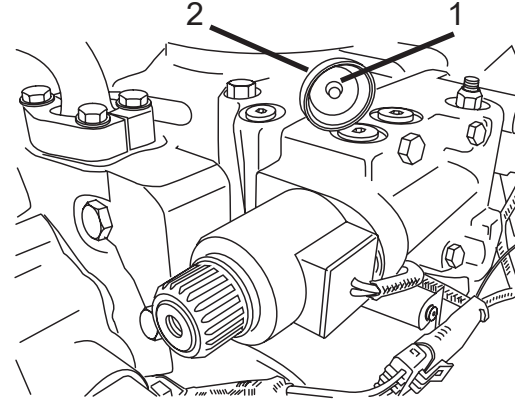

Figure 6
16. Remove the pins (Figure 6, Item 1) from the override caps (Figure 6, Item 2), and replace the caps. Place the pins in your pocket with the truck keys.